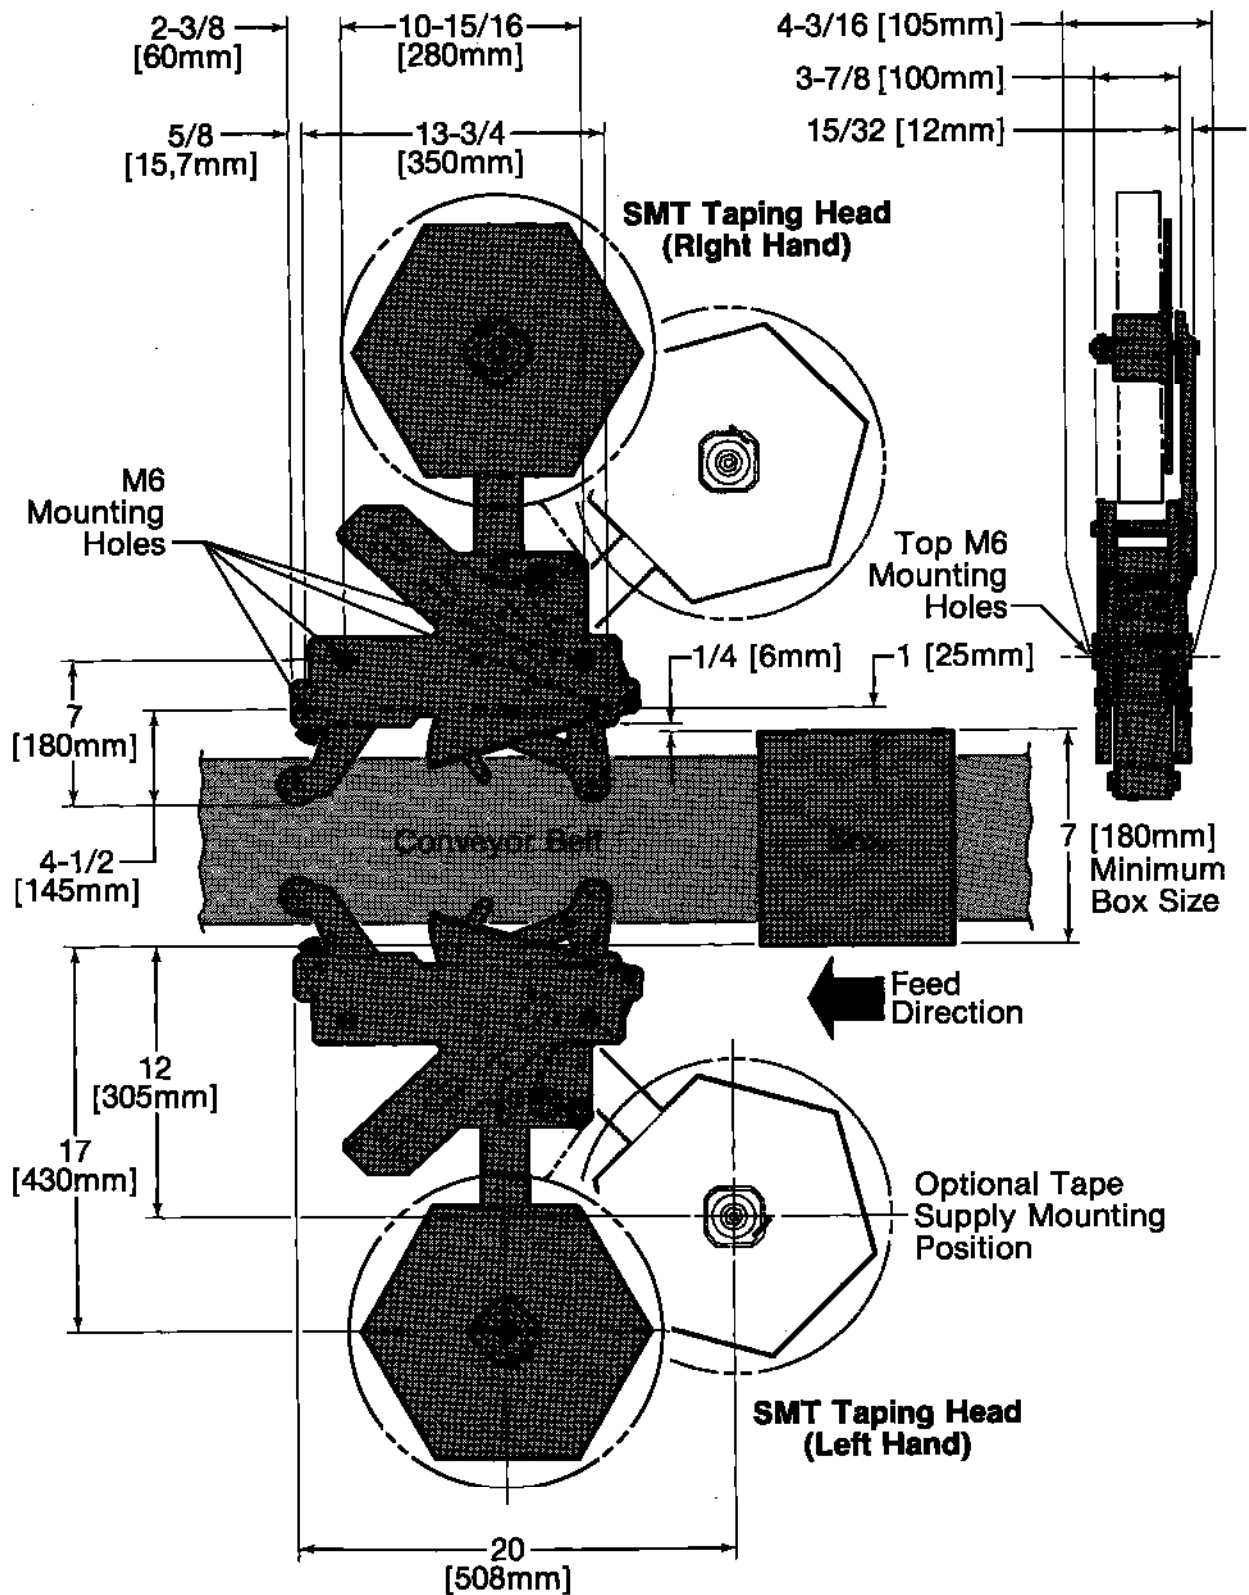

Figure 3 - Taping Head Assemblies - Typical Mounting - Top View
The SMT taping heads can be used in converting existing or in custom made machinery. It can be mounted for Right Hand and Left Hand side taping. Refer to box size specifications on page 3 and figure 3 on page 5, for the following points in making such installations:
3. Figure 3 illustrates the typical mounting relationship for opposing taping head assemblies to allow taping of box widths down to 7 inches or 180 mm. To tape box widths down to 2 3/4 inches [70 mm], the taping head assemblies must be completely staggered so only one tape seal is being applied at one time.
4. Two (2) mounting holes (M6 Dia) are provided in each taping head, but special installations may require alternate means for mounting. The Taping Head must be well supported, perpendicular to the box.
6. The taping heads provide two mounting positions for the tape drum bracket, as shown in figure 3.